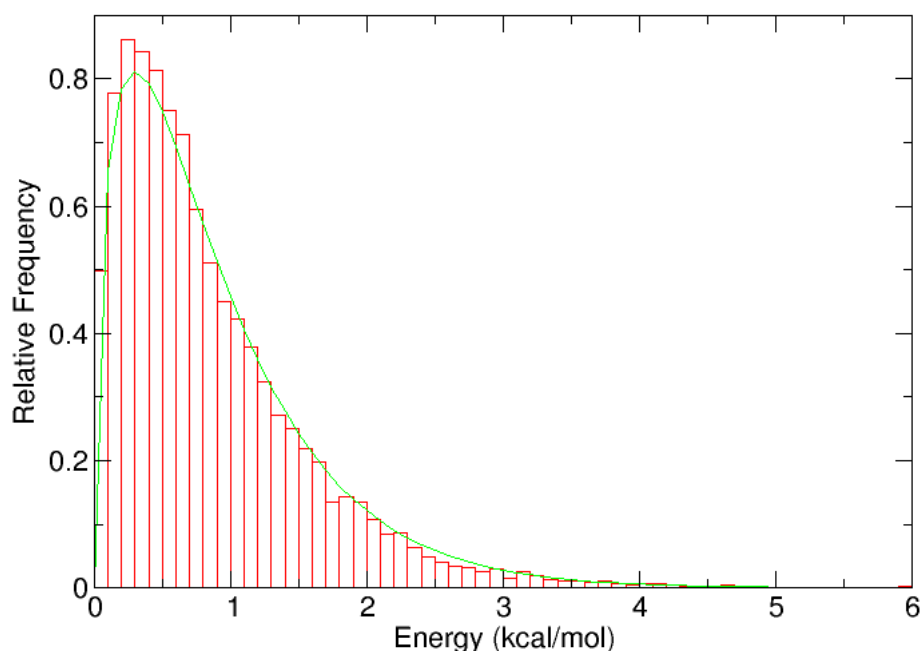

Figure 9: Maxwell-Boltzmann distribution for kinetic energies.
21. In the Parameters drop-down menu, choose 1. Fill-in forms will appear below. You can give an initial value to A0, so that the iterations will look for a value in the vicinity of your initial guess. In the A0 window, type 0.6, which in kcal/mol corresponds to a temperature of ~300K. The result are shown in Figure 9